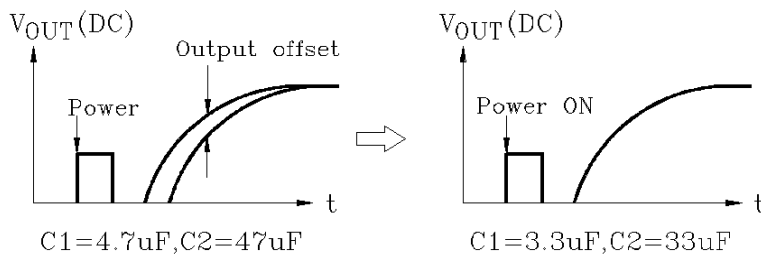

Fig.4
Having Pre-Amp (Amp 1) mounted on the primary stage, this IC contains the circuit for making the Amp 1 input voltage and the NF terminal voltage equipotential. Therefore, the offset voltage produced at the input stage is suppressed to prevent the pop noise at $V_{CC} \rightarrow ON$. The capacity values of the input and NF condenser (C1 and C2) shall be set according to the gain to be used(Fig 4).
Through setting ① pin (mute terminal) at about 1V or less, muting becomes possible. The interval circuit of IC is shown in fig.4.